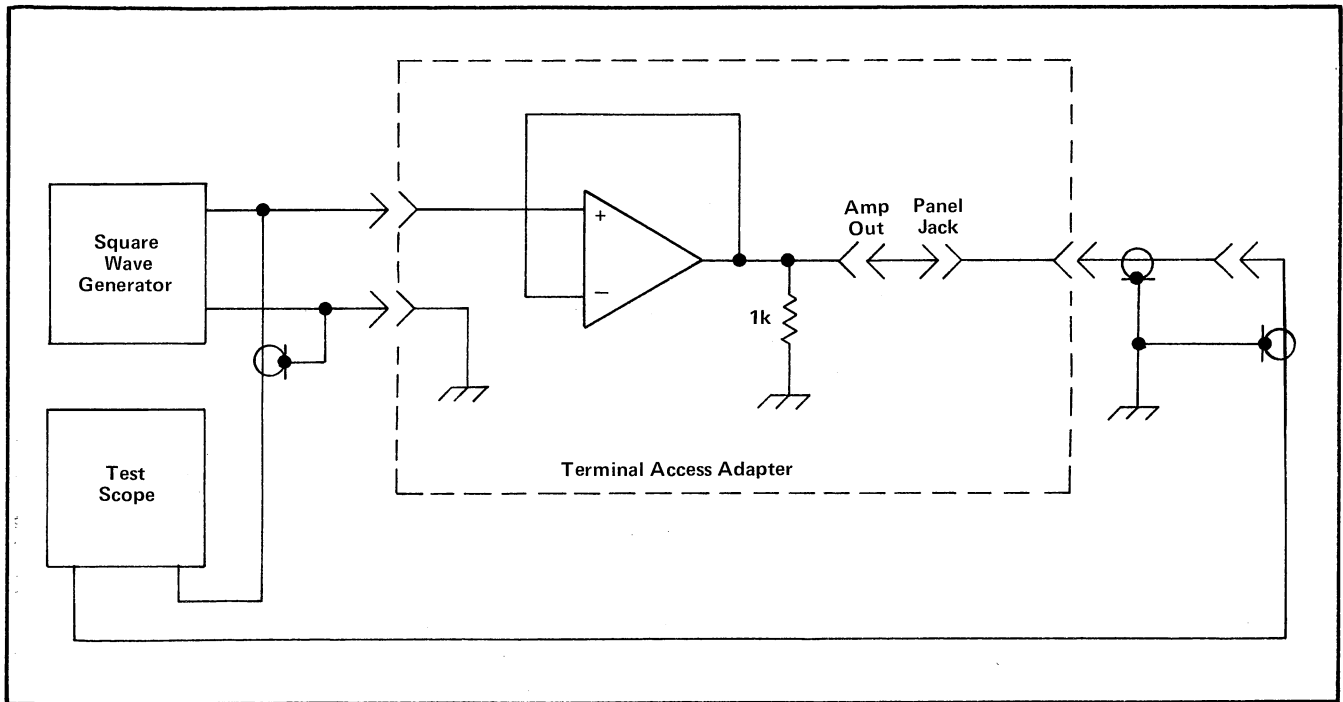

Fig. 5-5. Setup for checking Slew Rate.
a. Connect the Terminal Access Adapter as diagramed in Fig. 5-5.